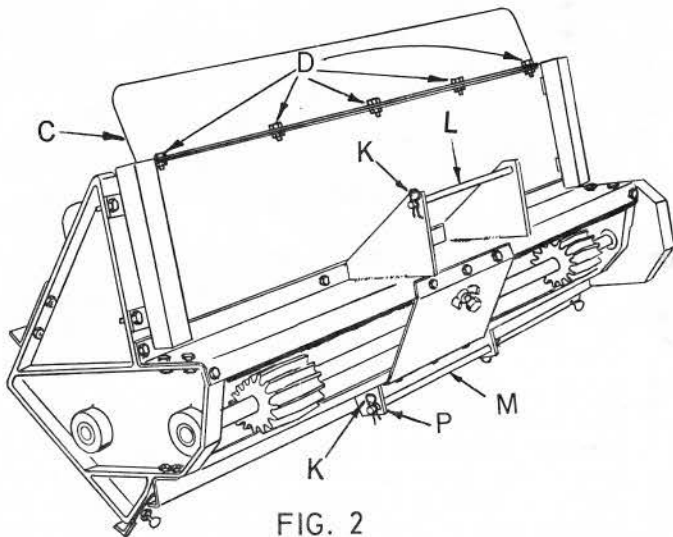
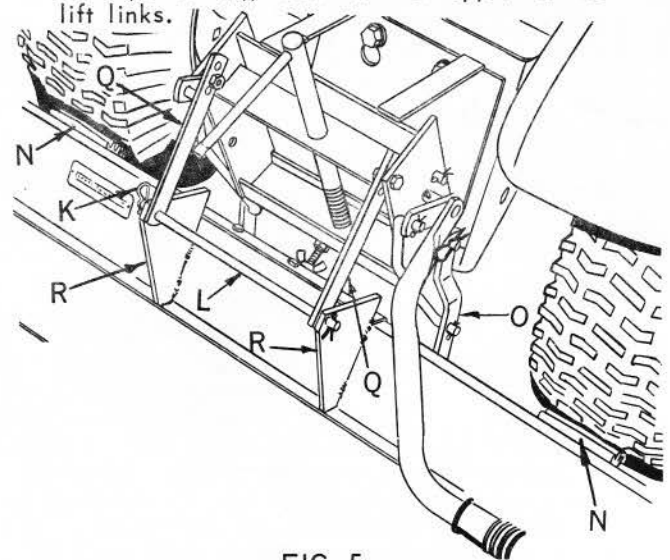

FIG. 2
FIG. 5
- Refer to Fig. 2. Remove retainer springs (K), and rods (L and M), from ends of upper and lower lift links.
- Move sweeper unit behind tractor and position so that drive rollers (N, Fig. 5), are at the front, near the top. For ease in assembly of lift links (O and Q), tilt sweeper back.
- Line up lower lift links (O, Fig. 5), with lower lift brackets (P, Fig. 2),--links to outside of brackets, and insert longest rod (M, Fig. 2). Secure with retainer spring (K, Fig. 2).
- Line up upper lift links (Q), with holes in upper lift brackets (R), and insert rod (L). Secure with retainer spring (K). Lift links should be inside lift brackets.
When sweeping grass that is wet or very damp and heavy, you may find that the grass is not thrown all the way to the rear of the catcher. This may be improved by removing the discharge guide panel (refer to Fig. 2, page 2), above the brush opening. This panel serves to deflect the swept material and prevent throwing material over the top of the catcher basket. It is most effective when sweeping dry leaves and dry grass clippings.